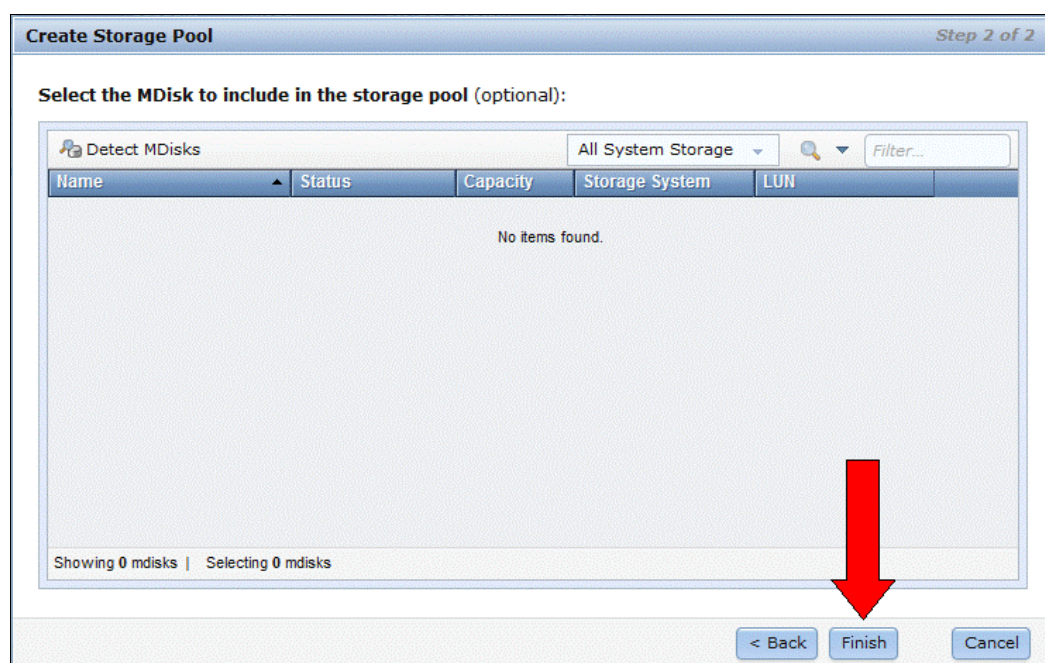

Figure 10-8 Create a storage pool
3. Click **Next**. If you created your MDisk arrays or use MDisk arrays from external storage, select the MDisk arrays to be included in the pool. Otherwise, click **Finish** to create an empty pool. (Figure 10-8).